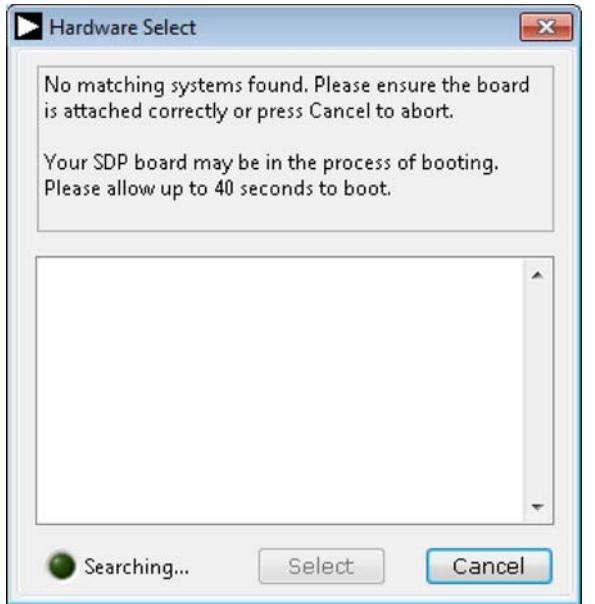

Figure 12. SDP-S Board Not Connected to the USB Port
2. If the SDP-S board is not connected to the USB port when the software is launched, a connectivity error displays (see Figure 12). Connect the evaluation board to the USB port of the PC, wait a few seconds until the board appears in the lower section of the window, and click Select (see Figure 12).